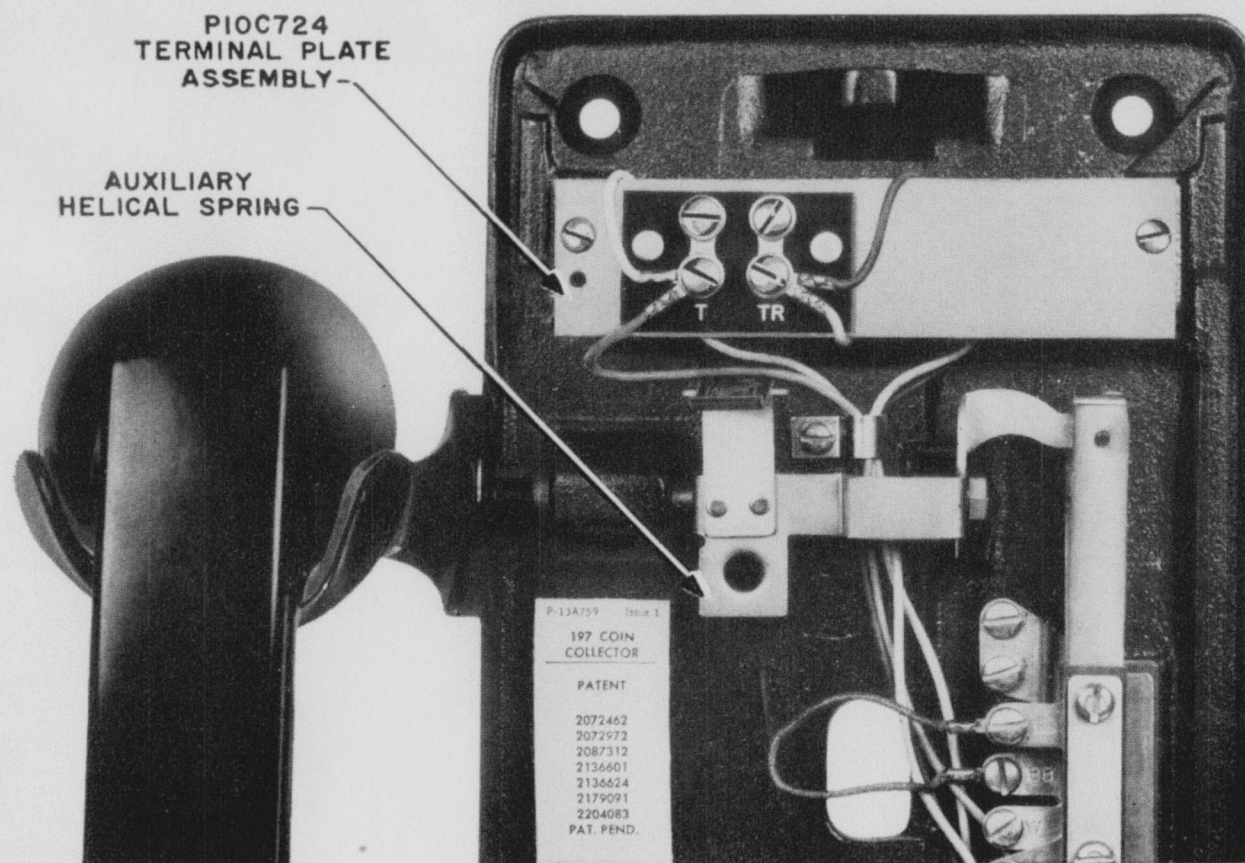

Fig. 1—Terminal Plate Assembly
2.03 Only the 191-, 195-, 196-, and 197-type coin collectors which are equipped with lightweight switchhook springs for the G-type handset, as indicated by an auxiliary helical spring at the location shown in Fig. 1, may be converted in the field for use with the 695-type subset as follows:
- (b) Install the P-10C724 terminal plate assembly at the former location of the induction coil (see Fig. 1). Install the G1B handset.